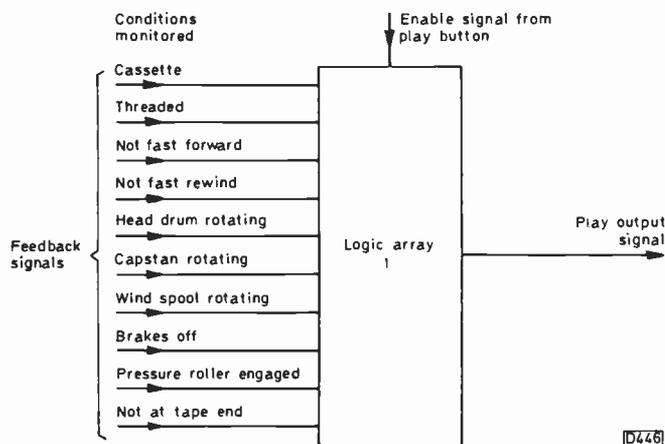

Fig. 1: Example of play control requirements.
Let's illustrate the problem by considering a single control requirement (play) in a hypothetical machine – see Fig. 1. Before the logic array produces a play output and maintains this, at least ten conditions should correct: (1) cassette in place; (2) tape fully threaded; (3) fast forward not selected; (4) fast rewind not selected; (5) head drum rotating; (6) tape capstan rotating; (7) take-up spool rotating; (8) brakes released; (9) pressure roller engaged (delayed); (10) tape not at end. A fairly simple bit of logic circuitry would suffice, but a different combination of requirements is needed for each mode of VCR operation
All this suggested the need for a new approach. In its simplest sense, a programmable logic array could handle the control and monitoring operations, each combination being selected by the control keyswitches. But that would simply provide go/no-go control. Take Fig. 1 again. Say we've switched the machine on and require play, but are initially in fast forward. We press the play key but logic array 1 will not allow play to commence since there's a fast forward signal present. We would have to press stop and then play. Clearly for foolproof operation we need some kind of "intelligent" control.